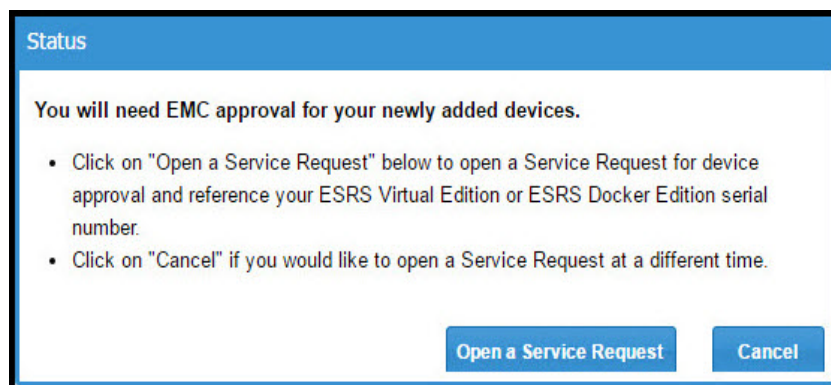

Figure 24 Message box
- Click **Request Update**. A message window appears, as shown in Figure 24 on page 32.